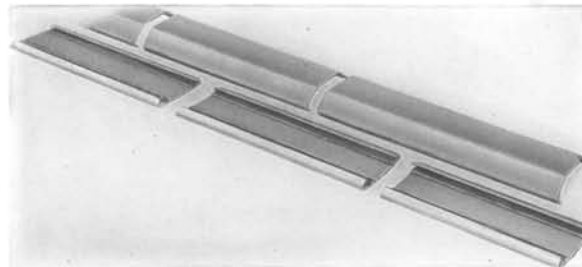

FIG. 15—OVERLAPPING METAL OVERFLOOR DUCT
- When the length of the run requires that the Wiremold or Florduct be spliced, the covers should be overlapped (see Fig. 15).